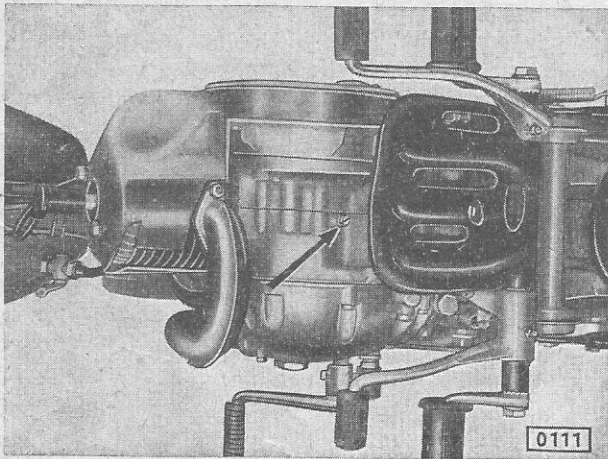

Fig. 11: Crankcase drain plug
2. Screw in mount spark plug and crankcase venting screw (Fig. 11), open fuel tap and start the engine.
8. a) the motorcycle has been tilted with open fuel feed tap or fell over, Start with throttle wide open. If the engine is badly flooded, drain petrol mixture from crankcase by unscrewing the drain plug (Fig. 11)